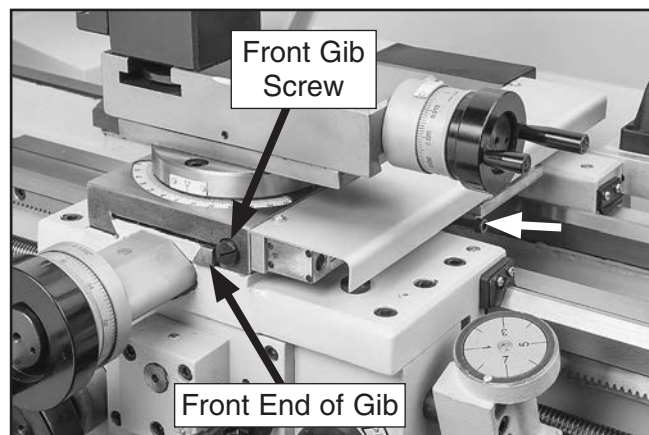

Figure 124. Cross slide gib components.
2. Adjust cross slide gib screw shown in **Figure 124** as follows: